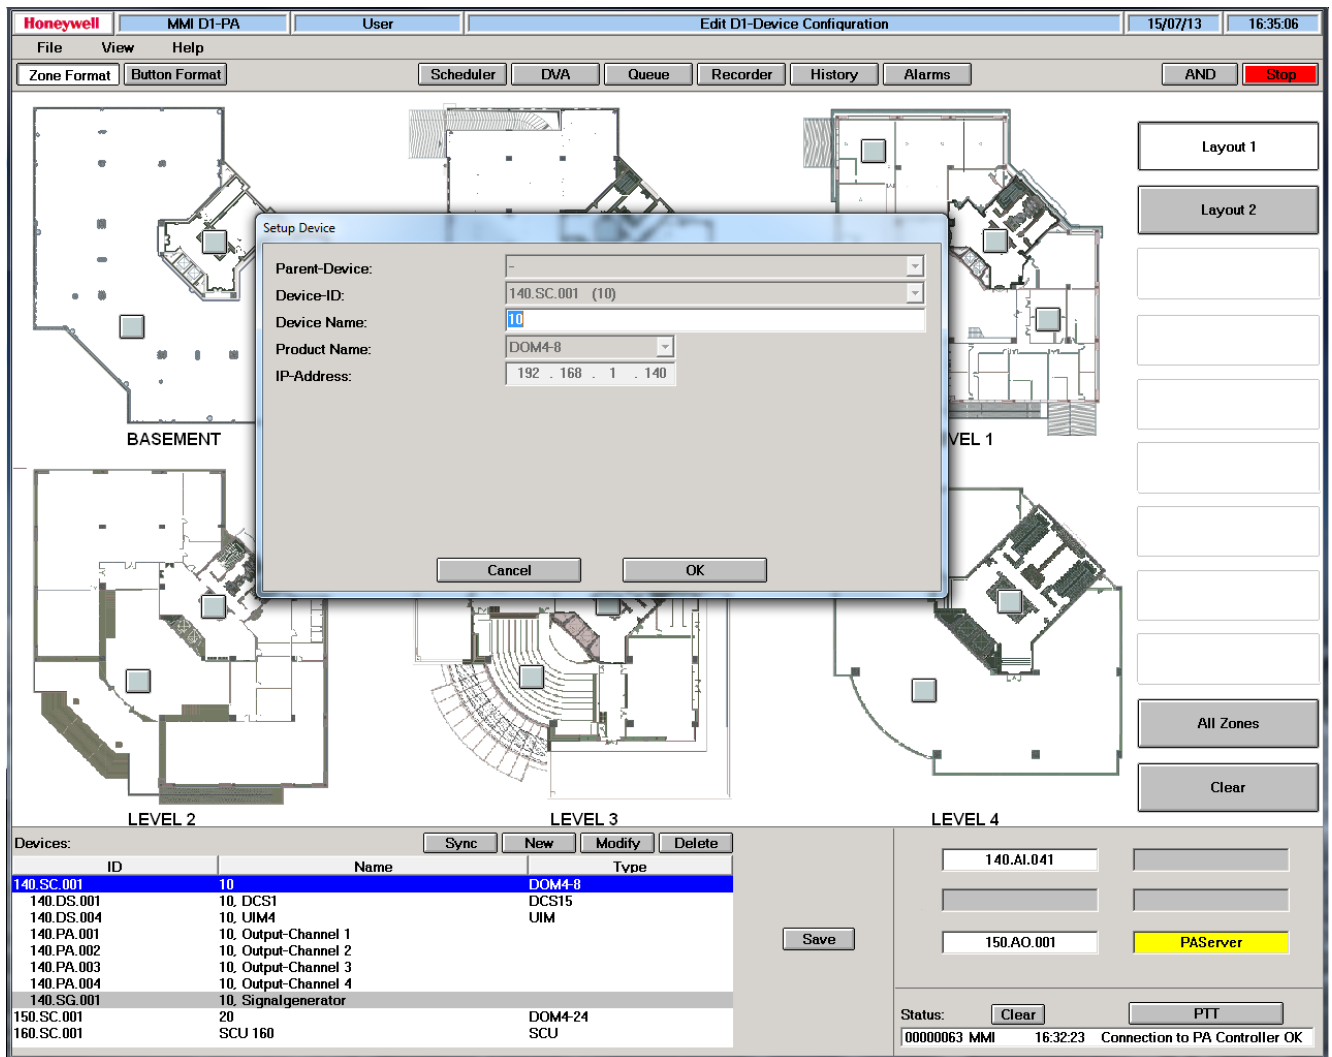

Fig. 11: Popup dialog for changing the configuration of the device selected in the device list
- “Modify” opens a dialog that displays all the configuration settings of the selected device (see Fig. 11). The name of the device can be changed in this dialog. Changes to the other configuration settings are only possible by deleting and recreating the device. “OK” accepts the new name for the device and closes the edit dialog.